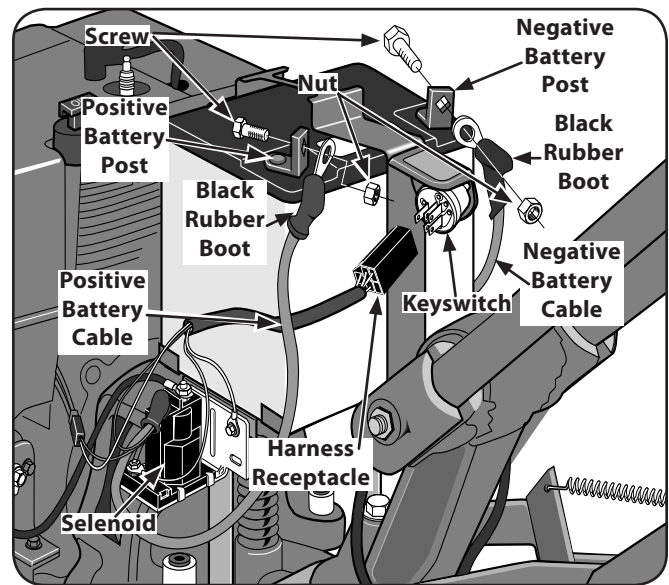

Figure 3-14
1. Before installing the battery and its hold-down clamp, insert the plastic wire harness receptacle into the prongs of the keyswitch located on the hold-down clamp. See Fig. 3-14.
2. Remove the ignition keys from the keyswitch and store them safely away. Do not insert the key into the keyswitch until you complete this section and read the Operation section. See Fig. 3-14.
3. Use a  $\frac{5}{8}$ " long screw and  $\frac{1}{4}$ -20 hex nut to connect the positive (+) battery cable to the positive (+) battery post. Make sure that this is the cable on the left side, with one end attached to the solenoid. See Fig 3-14.
4. Slide the black rubber boot completely over the battery post and cable connector. See Fig. 3-14.
5. Use a  $\frac{5}{8}$ " long screw and  $\frac{1}{4}$ -20 hex nut to connect the negative (-) battery cable to the negative (-) battery post and secure with screw and nut. See Fig. 3-14.
6. Slide the black rubber boot completely over the battery post and cable connector. See Fig. 3-14.